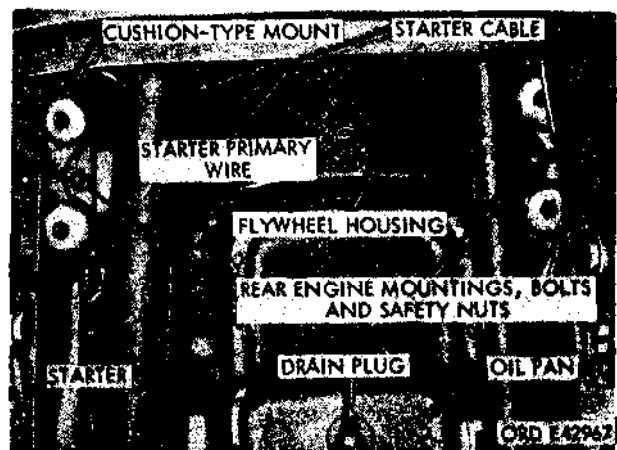

Figure 54.14. View of rear section of engine from underside of vehicle.
On some vehicles, the starter cable and starter primary cable extend from the starter to the magnetic switch over the top of the clutch housing (figure 54.7). On other vehicles, the cables extend from the starter to the magnetic switch around the bottom of the clutch housing (figure 54.14).
(h) Remove engine rear mounting plat. cap screws. Remove two self-locking nuts from cap screws (D, figure 54.5) securing mounting bosses on left and right sides of flywheel housing to engine rear mounts (figure 54.14).
2. With tension on engine lifting sling, aline holes in flywheel housing mounting bosses with engine rear mounts. Insert two capscrews (D, figure 54.5), one on each side, and loosely install safety nuts (figure 54.14) on capscrews.
(3) Connect procedures under vehicle.